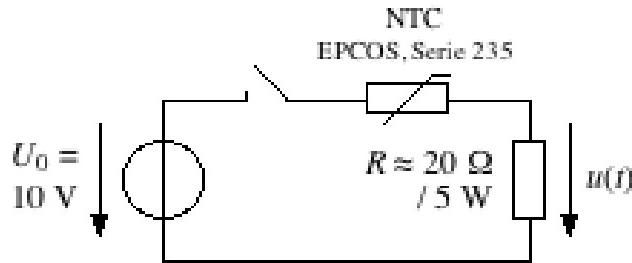

Figure 7.5.: Current Throttling with NTC
- Build the schematic according to figure 7.5 and record the voltage $u(t)$ over the resistor (this is proportional to the current flowing) with a scope (Oszilloskop) after switching on the source. Explain the process. How long does it take to reach a steady state?